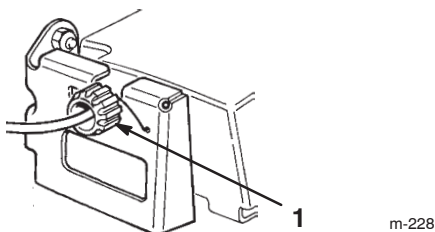

Figure 24
If the lawn mower does not self-propel or has a tendency to creep forward when the control bar is **more** than 1-1/2 inches (3.8 cm) from the handle, adjust the wheel drive control knob on the rear of the gear box (Fig. 24).
2. Rotate the control knob clockwise 1/2 turn if the lawn mower does not self-propel. If the lawn mower creeps forward, rotate the knob 1/2 turn counterclockwise (Fig. 24).